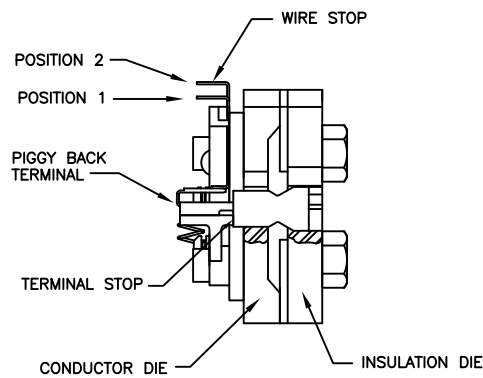

FIG. 7
- H6E Set the wire stop in Position 2 as shown in Fig. 7. Insert the connector with the roll form lying to the terminal stop (male tab on top) and the barrel against the terminal stop. Insert the stripped end of the wire into the barrel until it touches the wire stop inside the connector. Hold the wire in place and crimp. The crimp cycle is the same as in the other configurations.